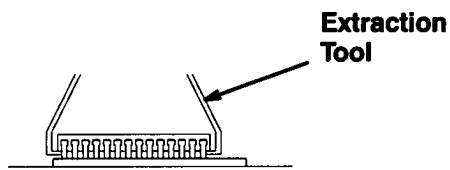

Fig 9
4. Use an I.C. extraction tool to remove the old software chip. Pull the chip directly up. See Fig 9.